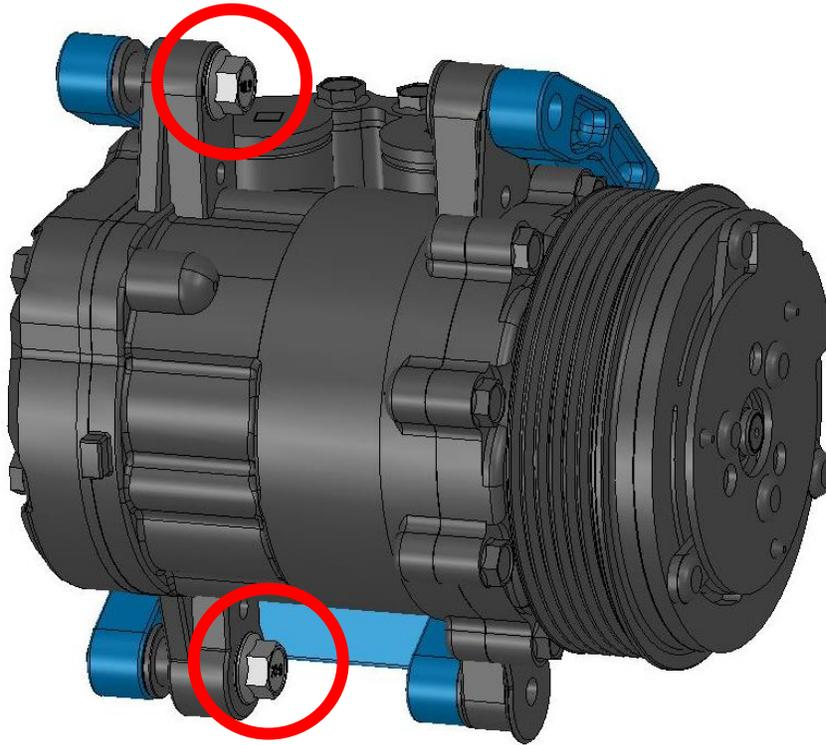

Figure 1: Note that both flange bolts face rearward.
- Orient Sanden SD7 A/C compressor as shown in **Figure 1** into the Holley bracket. (Refrigerant ports should point toward the alternator when installed on the engine.) Insert (2) M8 x 1.25 x 40mm flange bolts into the rear compressor ears and thread into tapped holes in the bracket. Leave bolts loose until all bolts are started.